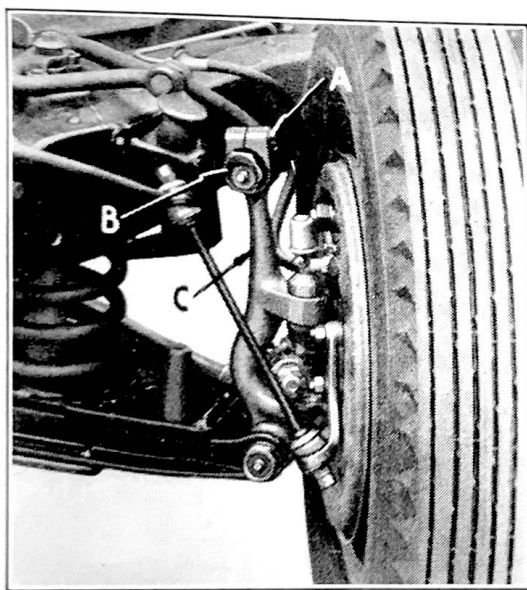

Figure 35
Caster and Camber Adjustments are made by means of the eccentric bushing (B), Fig. 35. As both camber and caster are affected by the movement of this bushing, it will be necessary to check and reset the camber after correct caster has been obtained.